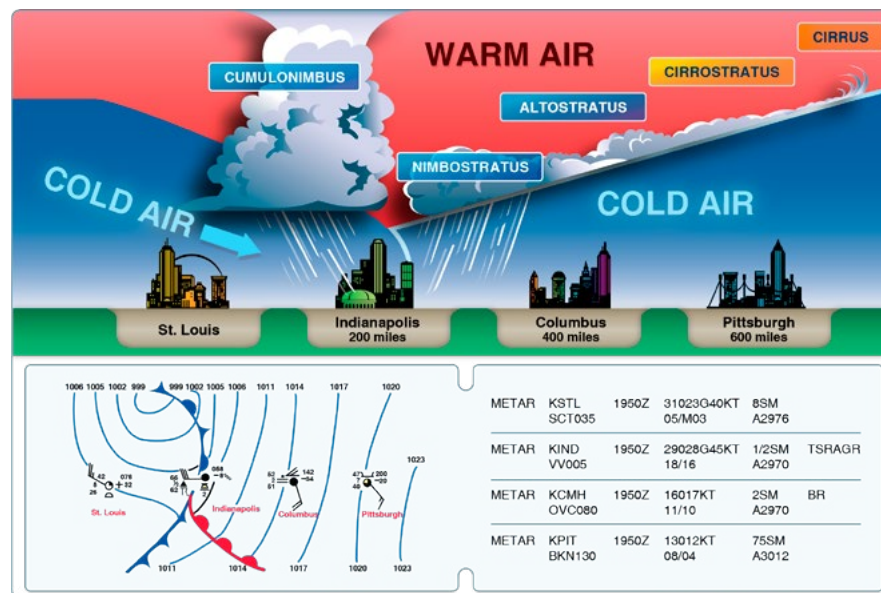

Figure 10-9. – Occluded front: cross-section, as shown on weather map, and as reported on a METAR.
- Occluded front weather (See Figure 10-9)